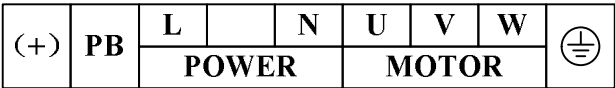

Fig. 4-2e
e) The Major Loop Terminal Block Distribution Diagram of 3 phase 132kW-315kW Frequency Converter (as shown in fig. 4-2e)
4.2.2 Single-phase major loop terminal block distribution diagram is shown in figure 4-2e, and the instruction on the functions of various terminals is shown as follows.